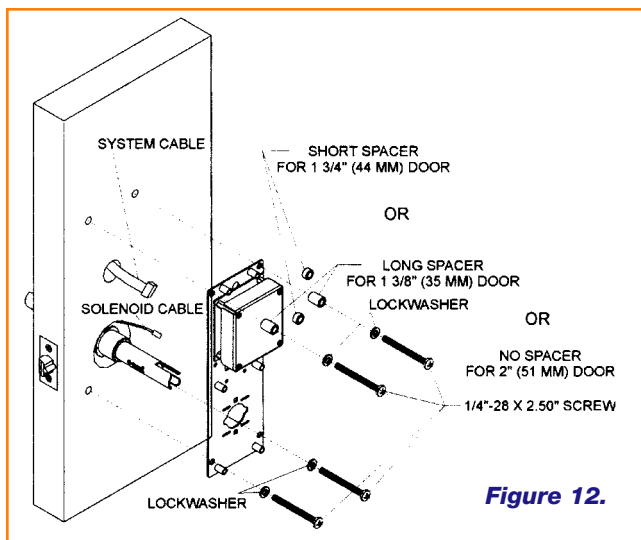

Figure 12.
3. Install the two top 1/4-28 x 2-1/2" Philips round head screws with the appropriate spacers to compensate for door thickness, and with the lockwasher. Do not tighten yet. (See figure 12.) Use the two 7/16" diameter x 1/4" (short spacers) for a 1-3/4" door. Use the 7/16" x 5/8" (long spacers) for a 1-3/8" door. No spacers are required for a 2" door.